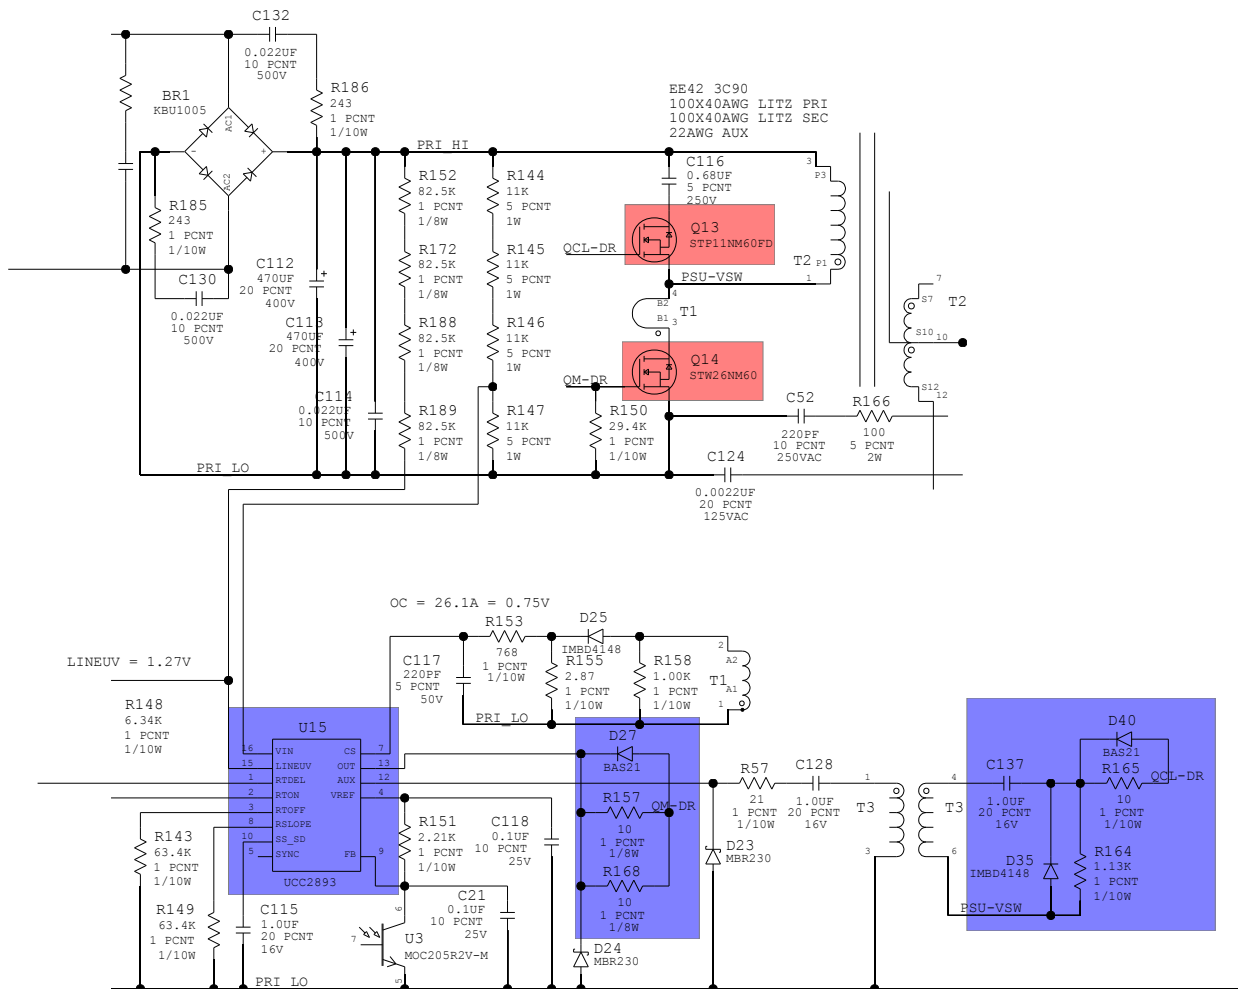

Figure 9.9 - Components to replace and/or check in the event of a power supply MOSFET failure.
- Use the highlighted schematic in Figure 9.9 as a component check guide. Replace components in red and check components in blue.